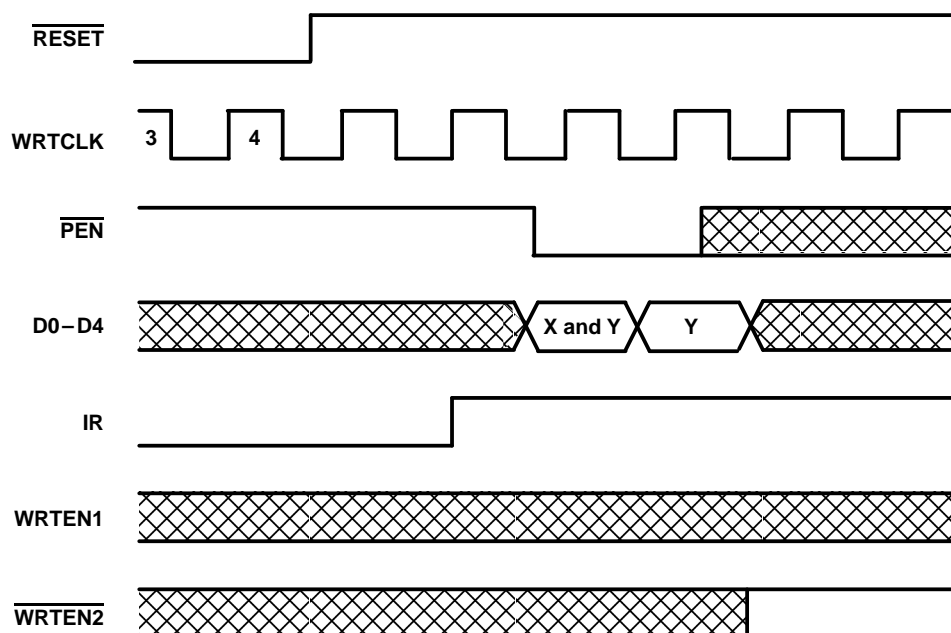

Figure 4. Programming X and Y Separately
Program enable (\overline{PEN}) should be held high throughout the reset cycle. \overline{PEN} can be brought low only when IR is high and WRTCLK is low. On the following low-to-high transition of WRTCLK, the binary value on D0–D4 is stored as the almost-empty offset value (X) and the almost-full offset value (Y). Holding \overline{PEN} low for another low-to-high transition of WRTCLK reprograms Y to the binary value on D0–D4 at the time of the second WRTCLK low-to-high transition. When the offsets are being programmed, writes to the FIFO memory are disabled regardless of the state of the write enables (WRTEN1, WRTEN2). A maximum value of 31 can be programmed for either X or Y (see Figure 4). To use the default values of $X = Y = 8$, \overline{PEN} must be held high.